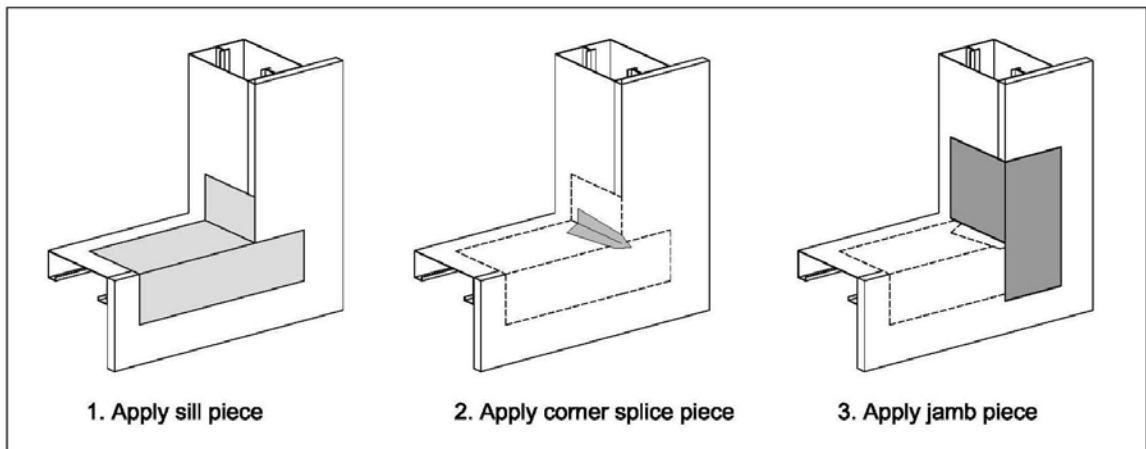

Figure 1
4.6.4.2.(1) Apply the Dryvit EIFS Tape as shown in the detail below - Figure 1.